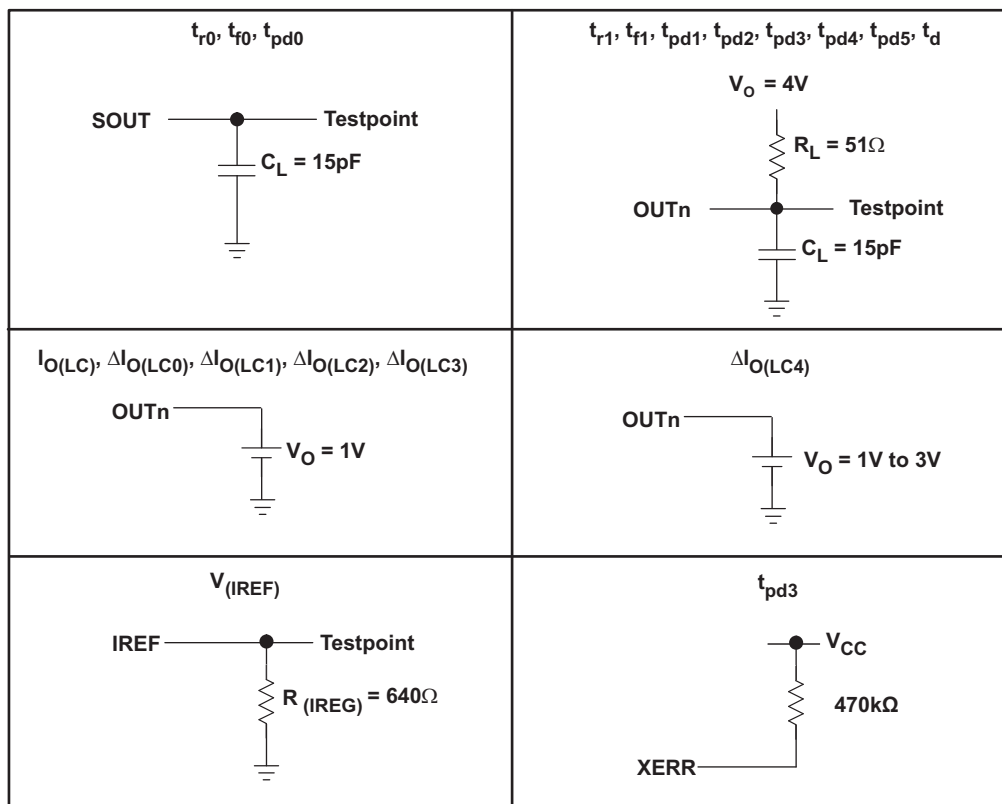

Figure 2. Parameter Measurement Circuits
| $I_{O(LC)}$         | Constant sink current (see <a href="#">Figure 2</a> )       | All output ON, $V_O = 1\text{V}$ , $R_{(IREF)} = 640\Omega$                                                                        | 54             | 61         | 69      | mA            |
| $\Delta I_{O(LC0)}$ | Constant sink current error (see <a href="#">Figure 2</a> ) | All output ON, $V_O = 1\text{V}$ , $R_{(IREF)} = 640\Omega$ , OUT0 to OUT15, $-20^\circ\text{C to }85^\circ\text{C}$               |                | 1          | $\pm 4$ | %             |
| $\Delta I_{O(LC1)}$ | Constant sink current error (see <a href="#">Figure 2</a> ) | Device to device, Averaged current from OUT0 to OUT15, $R_{(IREF)} = 1920\Omega$ (20mA) (2)                             |                | -2+0.4 | 4       | %             |
| $\Delta I_{O(LC2)}$ | Constant sink current error (see <a href="#">Figure 2</a> ) | Device to device, Averaged current from OUT0 to OUT15, $R_{(IREF)} = 480\Omega$ (80mA) (2)                              |                | -2.7+2 | $\pm 4$ | %             |
| $\Delta I_{O(LC3)}$ | Line regulation (see <a href="#">Figure 2</a> )             | All output ON, $V_O = 1\text{V}$ , $R_{(IREF)} = 640\Omega$ , OUT0 to OUT15, $V_{CC} = 3\text{V to }5.5\text{V}$ (3)    |                | 1          | $\pm 4$ | %/V           |
| $\Delta I_{O(LC4)}$ | Load regulation (see <a href="#">Figure 2</a> )             | All output ON, $V_O = 1\text{V to }3\text{V}$ , $R_{(IREF)} = 640\Omega$ , OUT0 to OUT15 (4)                            |                | $\pm 2$    | $\pm 6$ | %/V           |